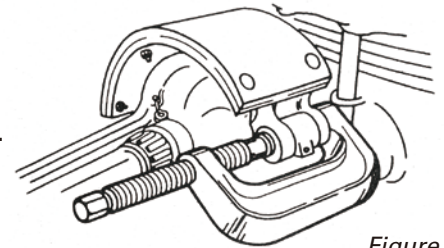

Figure 1
2. Position the C - Frame press over the brake spider as shown in Figure 1.